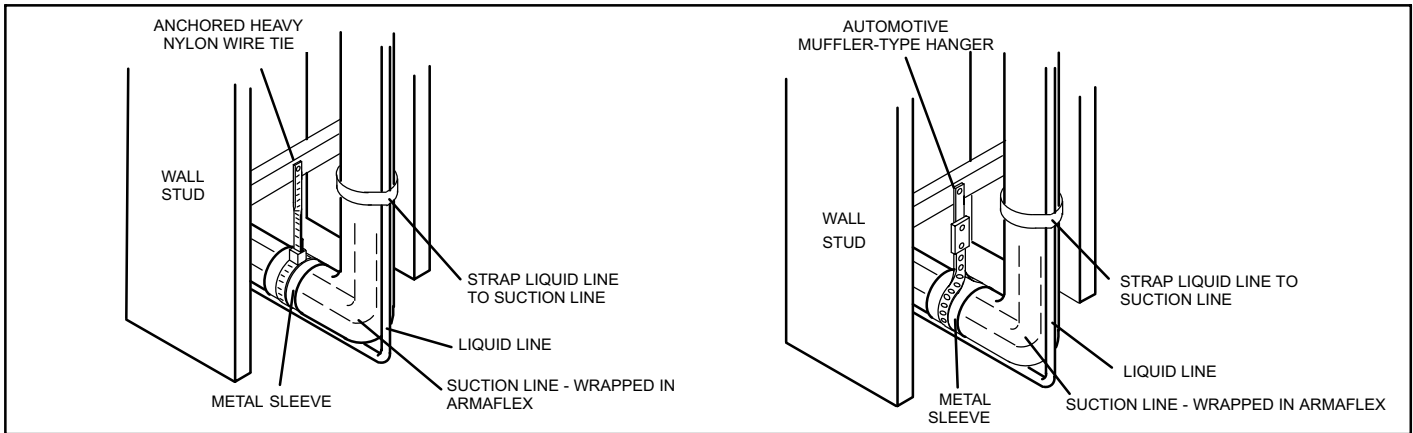

Figure 17. Refrigerant Line Set: Transition from Vertical to Horizontal
- Installation of a transition from horizontal to vertical is illustrated in figure 17.